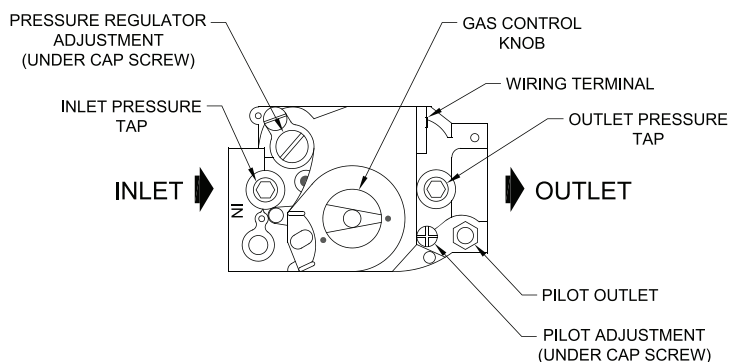

Figure 9-3: Top View of Gas Valves
2. PURGE AIR FROM GAS PIPING by loosening (or removing) "Inlet Pressure Tap" plug on gas valve (See Figure 9-3). Tighten (or replace) plug when you start to smell gas. Adequate ventilation must be provided and no smoking or open flame permitted.
- Install manometer on $\frac{1}{8}$ " outlet pressure tap on gas valve (see Figure 9-3). Use of shutoff valve between manometer and gas